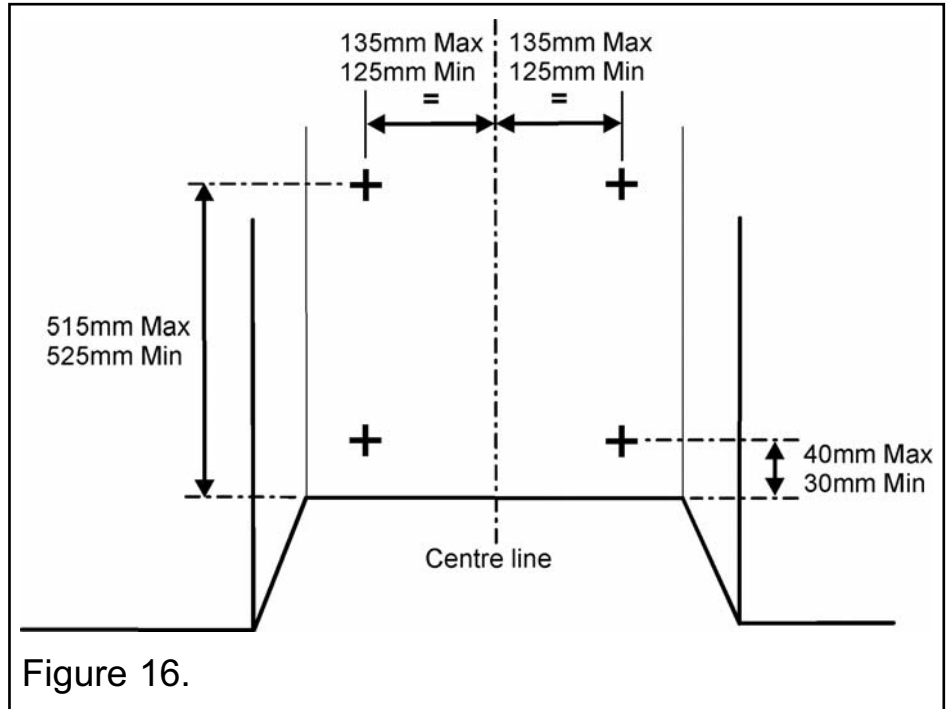

Figure 16.
2. Drill four holes in the rear wall of the fireplace for the eyebolt plugs. The holes should be drilled within the range of positions shown in figure 16 using a suitably sized masonry drill for the fibre / wooden plugs supplied. The holes should be equidistant each side of the centre line of the fireplace to ensure that the appliance finishes centrally in the opening when tension is applied to the cables.